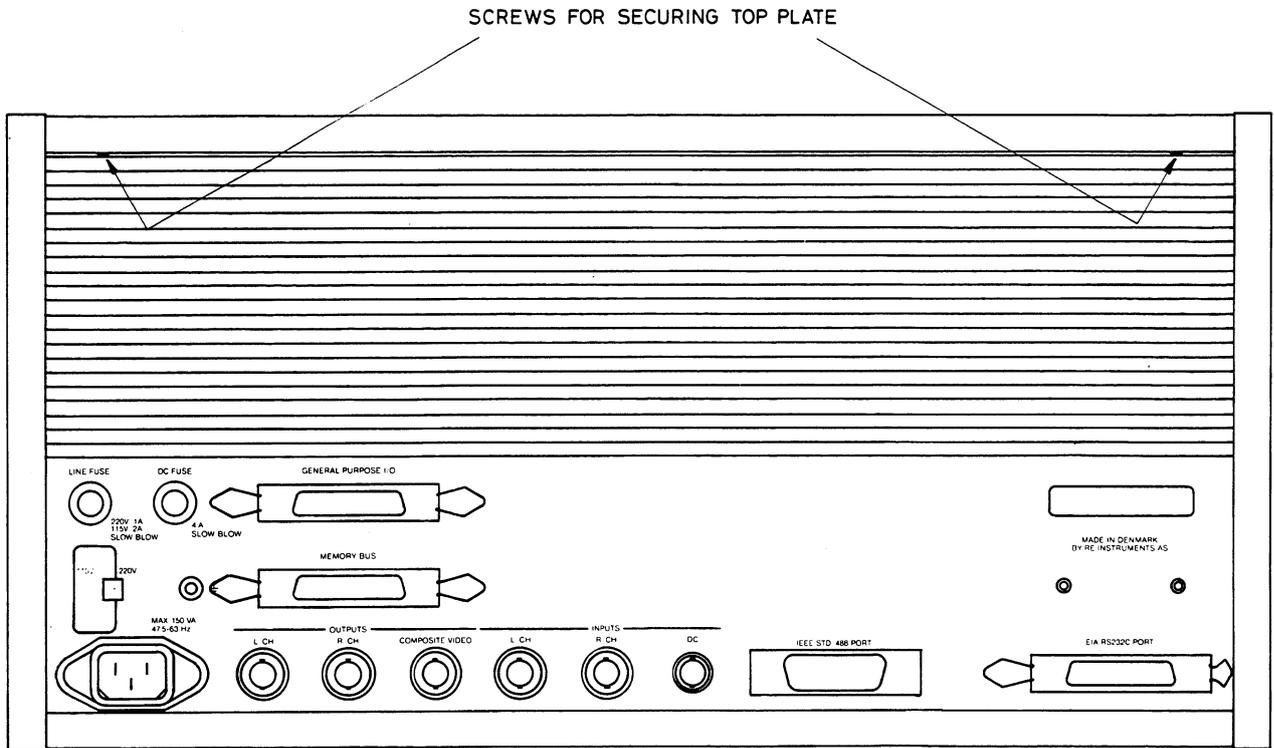

Fig. 1.1 - Top Plate Screws
- * Remove the screws securing the top plate (refer to fig. 1.1) using a Pozidriv No. 1 screwdriver.